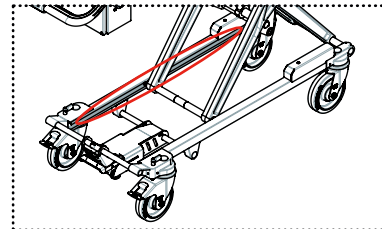

FIGURE 2
- Clean the guides on both sides and renew the lubrication with Vaseline (see Fig. 2). IMPORTANT: after greasing, always clean the excess.